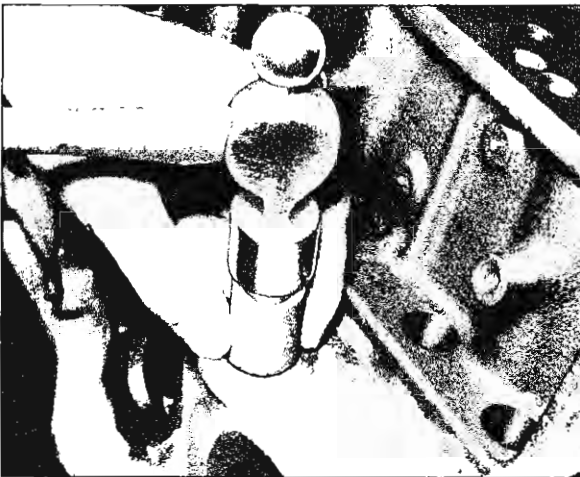

Fig. 70—Installing Distributor Shaft Thrust Washer
4. If thrust washer was removed, start new washer in position in bore and drive into place using Tool J-9535 (fig. 70).